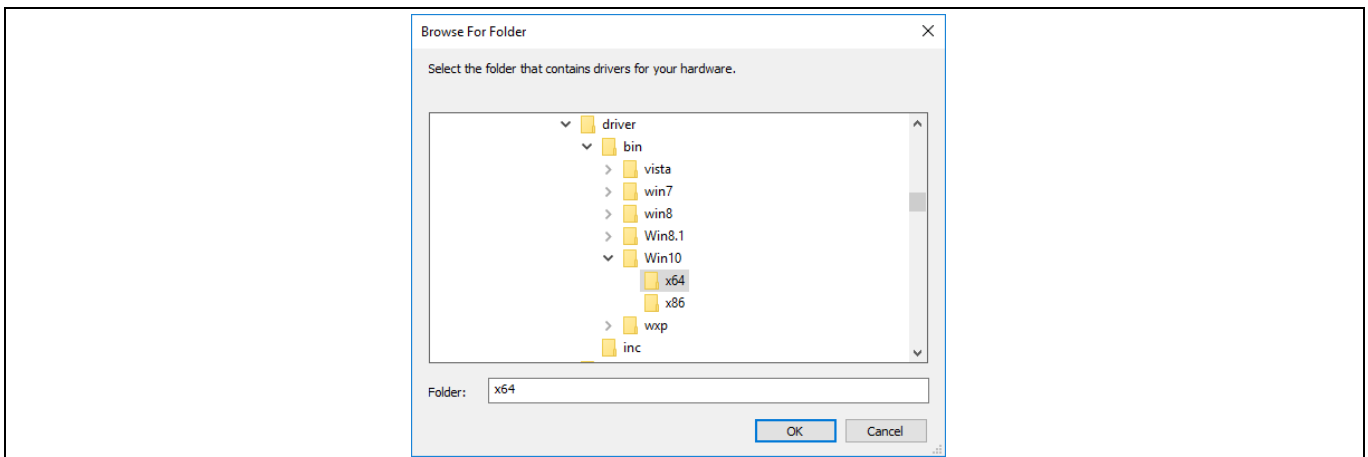

Figure 27 Manual Driver Binding-Step 3
4. Click **OK** and press **Next** as in **Figure 27**. The operating system acknowledges successful driver installation.